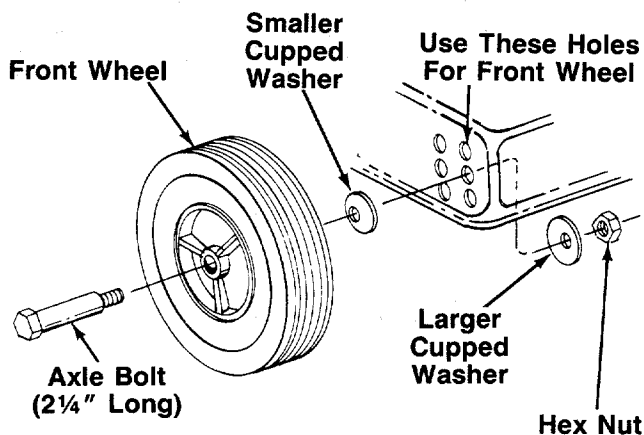
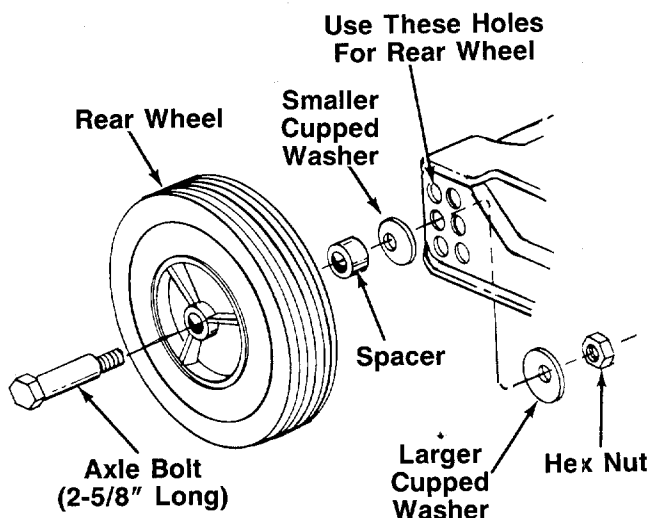

FIGURE 11.
FIGURE 12.
If the wheels on your mower are not already assembled, proceed as follows. The front wheels must be assembled in one of the three holes nearest the front of the deck. See figure 11. The rear wheels must be assembled in one of the three holes nearest the rear of the deck. See figure 12.
To assemble the front wheels: (See figure 11)
- ← To assemble the rear wheels: (See figure 12)
position. Belleville washers must be assembled so that the cupped side of the washers are against the deck. The spacers must be assembled between the rear wheels and the belleville washers. Refer to figures 11 and 12.